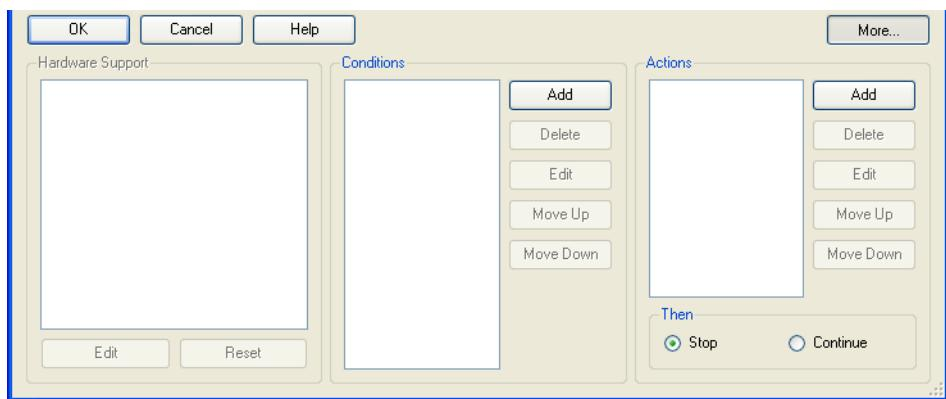

Figure 12-1 Breakpoint behavior controls
2. Click **More...** on the breakpoint dialog box you are using. The breakpoint behavior controls are displayed, shown in Figure 12-1.
2. Click **More...** on the breakpoint dialog box you are using. The breakpoint behavior controls are displayed, shown in Figure 12-1 on page 12-4.